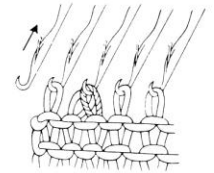

Fig.56
- Using the double eye transfer tool transfer the first and second stitches onto the second and third needles. (Fig.56)